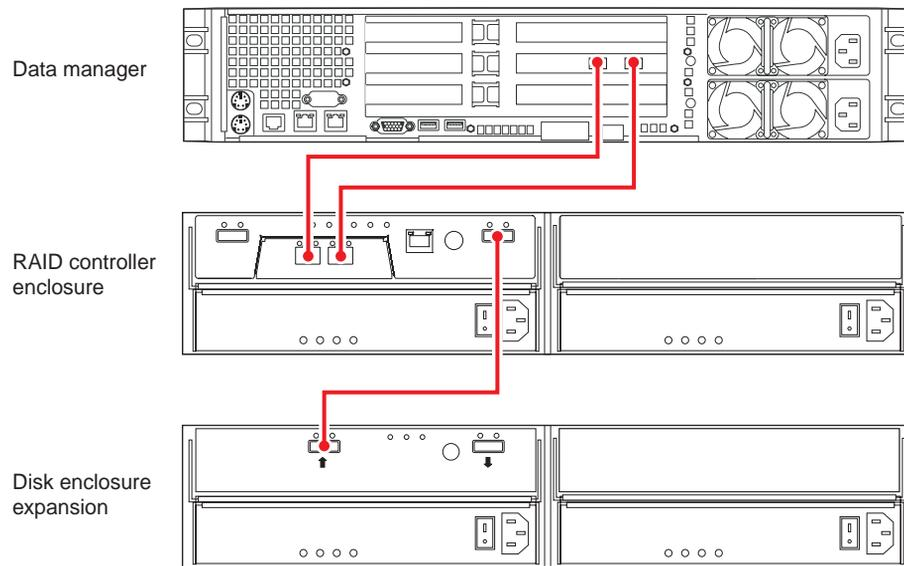

Figure 1-12 Data Manager, Single-Controller RAID Enclosure and One Disk Expansion
Use the following steps and Figure 1-12 to cable a data manager to a single-controller SATA RAID enclosure with one disk expansion enclosure.
1. Connect the Data Manager's Fibre Channel PCI card port A to the RAID controller's host 1 port in the controller enclosure, see Figure 1-12.